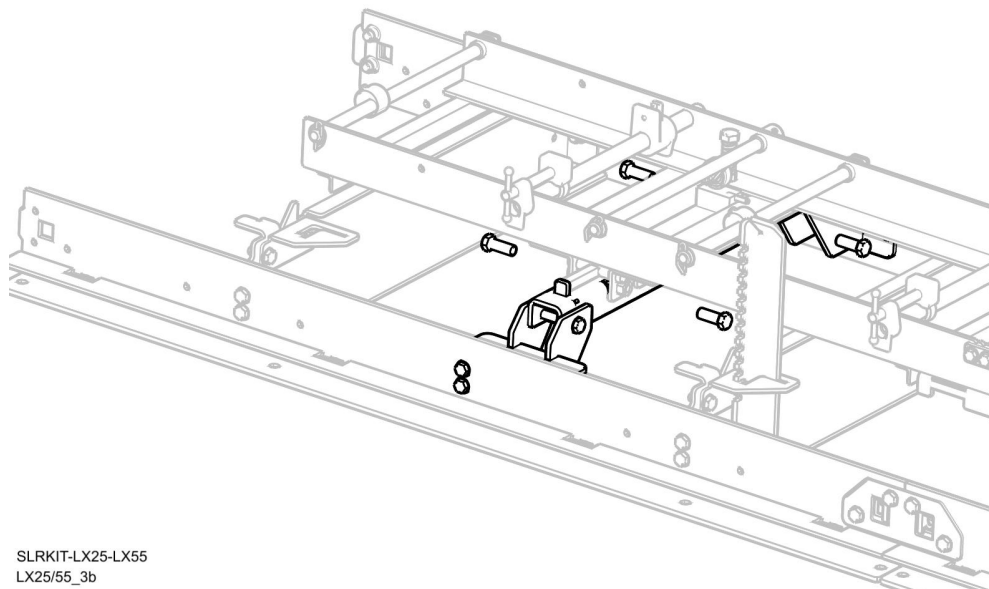

FIG. 4-5
5. Secure SLR in rear, FIG. 4-5